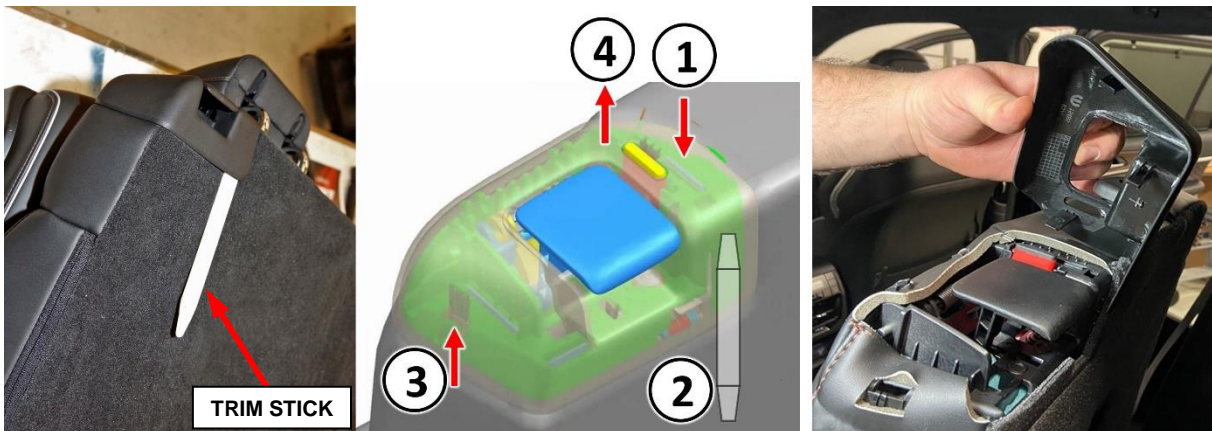

Figure 24 – EZ-Entry Handle Bezel
22. Remove the EZ-Entry handle bezel (Figure 24).
- a. While pushing down on rear inboard corner (1), slide trim stick (2) under rear of bezel from the inboard side. Then gently pry trim stick out 5-10 degrees, until the bezel pops up slightly. Keep light pressure up on the trim stick.
- b. Jostle and lift at point (3) to disengage the outboard snap attachment, rotate trim stick slightly back and forth if needed.
- c. Pull on front inboard of bezel at (4) and at the same time push up on the trim stick.